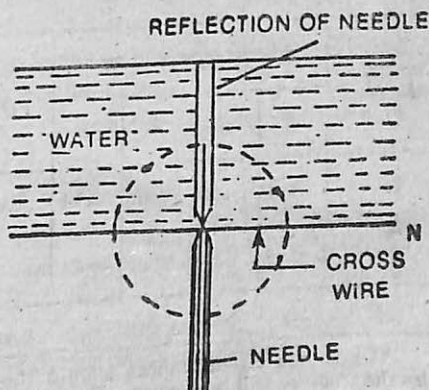

Fig. 28.4.
11. Now bring the microscope in front of the needle and lower it till the cross-wire is in the position N as shown in Fig. 28.4 symmetrically between the tip of the needle and its image in water. Read the vertical scale again.